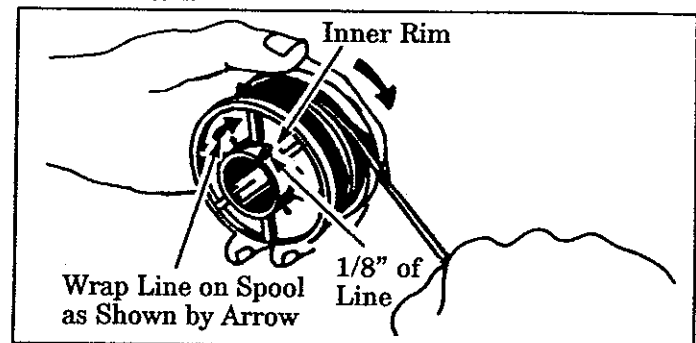

Figure 23
- Insert 1/16" to 1/8" of the end of the Line through the hole in the inner rim of the Spool. Figure 23. Allow no more than 1/8" line to extend beyond the rim to avoid interference with tapping action.
- Wrap the Line onto the Spool firmly and evenly in a clockwise direction as shown by the arrow on the Spool. Figure 23.